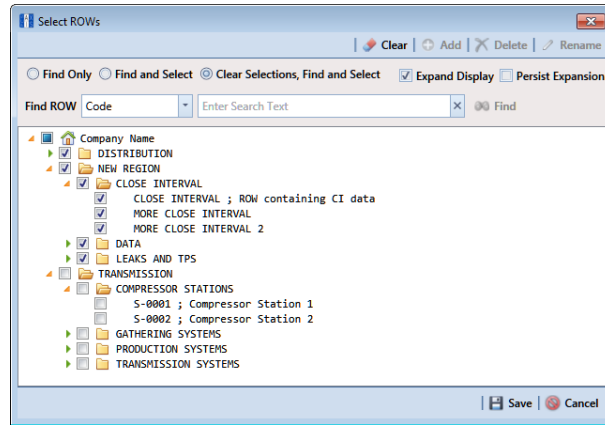

Figure 7-117. Select ROWs
- 1 Select one or more pipeline segments in the *Select ROWs* window (Figure 7-117). Click  **Save** to close the window.